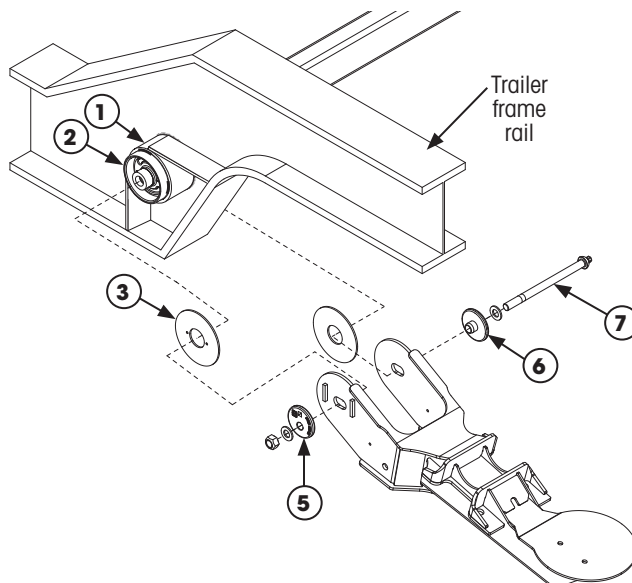
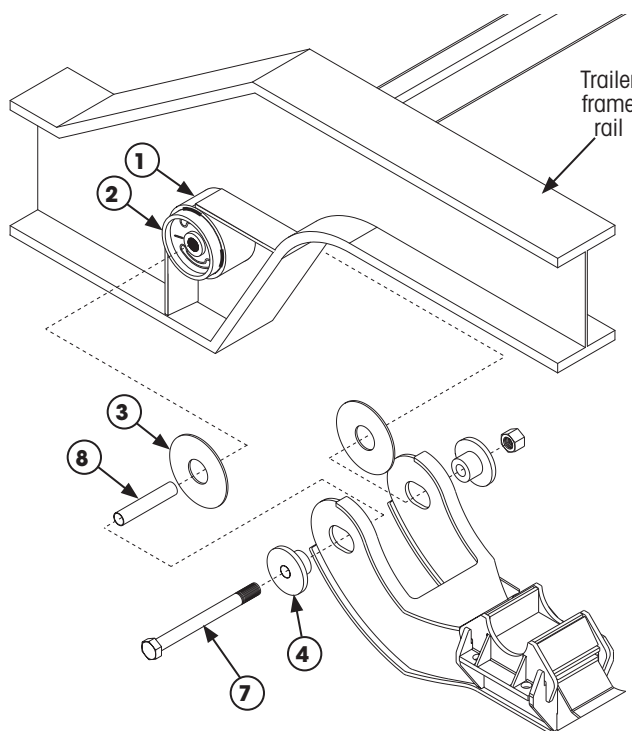

Figure 9: QUIK-ALIGN® pivot connection hardware
Figure 10: Welded collar pivot connection hardware
HT™ Series Y-beam suspensions differ from other suspension beams because they do not use a frame bracket. The fork or "Y" of the beam connects directly to the trailer frame using the bushing tube sleeve (Figure 9 and Figure 10, item 1).